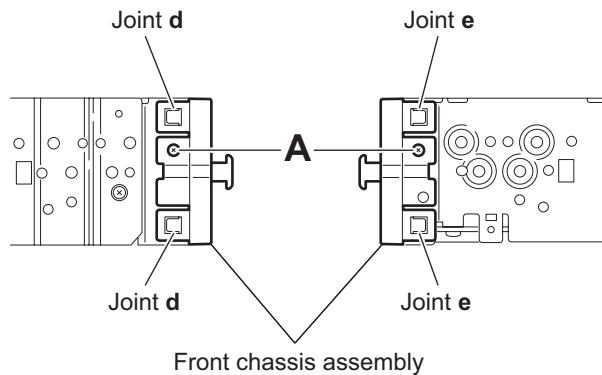

Fig.3
3.1.3 Removing the front chassis assembly (See Fig.3)
3.2.2 Removing the connector board (See Figs.3 to 5)